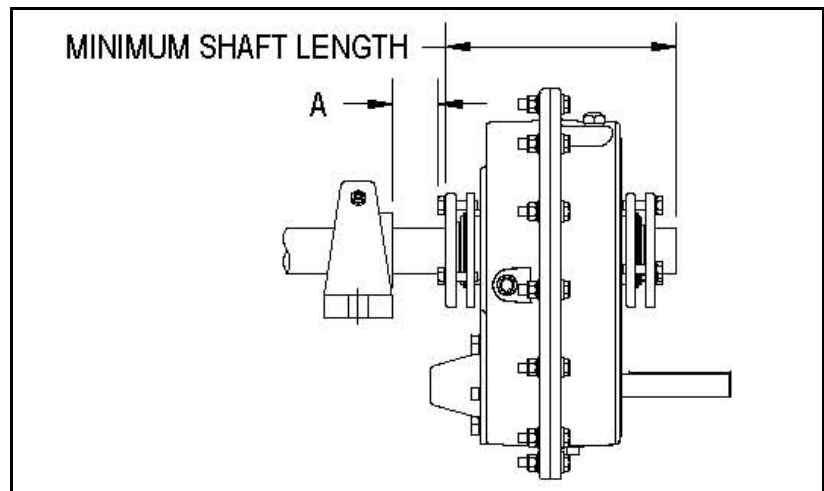

Figure 3.13 Minimum Recommended Dimensions
1. The long bushing is designed to be installed from the side of the reducer opposite the driven equipment as shown in Figure 3.13. The long bushing when properly installed is designed to capture the end of the shaft that does not extend through the reducer. Normally the reducer would be mounted such that the input shaft extends from the side of the reducer opposite the driven equipment however the reducer design allows installation of the reducer to be mounted in the opposite direction.
bushing wedge into the reducer hub, install the flange end first so that the thin taper is pointing outwards towards the long bushing as shown in Figure 3.13. The wedge is properly installed when it snaps into place in the reducer hub.